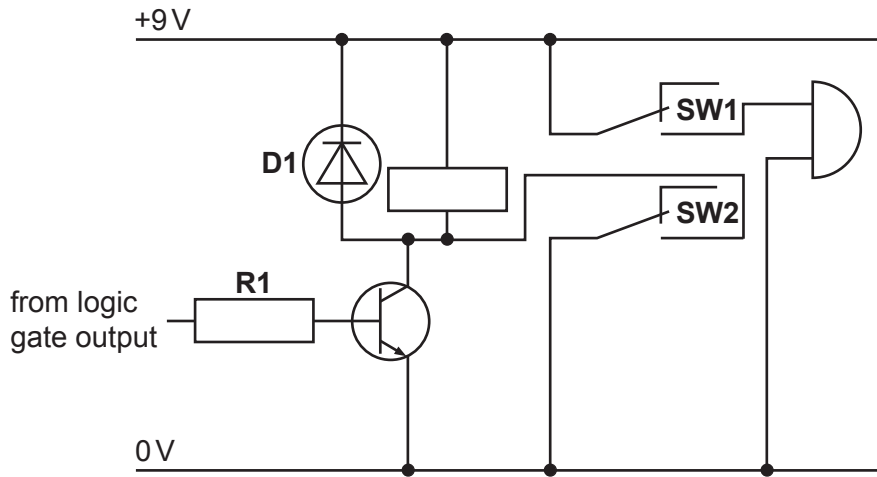

Fig. 12.5
- (iv) Fig. 12.5 shows the connections used to latch the output of the alarm on when the sensor is no longer activated.
Explain how the latch circuit in Fig. 12.5 works.
Circle a suitable position for a reset switch on Fig. 12.5. [1]